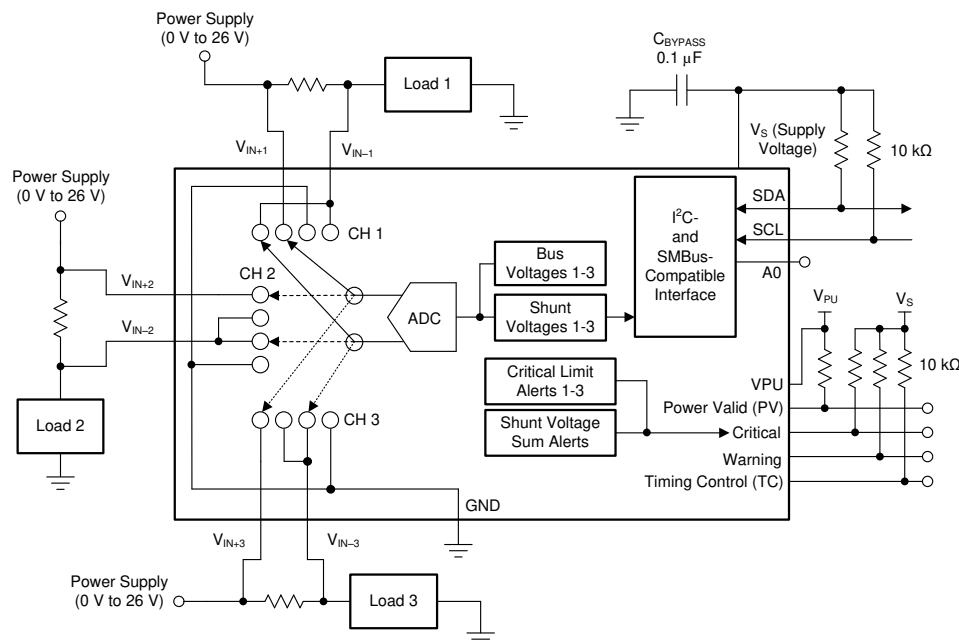

图 9-1. INA3221-Q1 as an Overcurrent Sensor
图 9-1 illustrates a typical INA3221-Q1 application circuit using all three channels. For best performance, use a 0.1- $\mu$ F ceramic capacitor for power-supply bypassing, placed as close as possible to the supply and ground pins. The digital pins (SCL, SDA, Critical, Warning, TC) are connected to supply through pull-up resistors. The power valid (PV) alert pin is connected to the VPU pin through a pull-up resistor to enable power-valid monitoring.